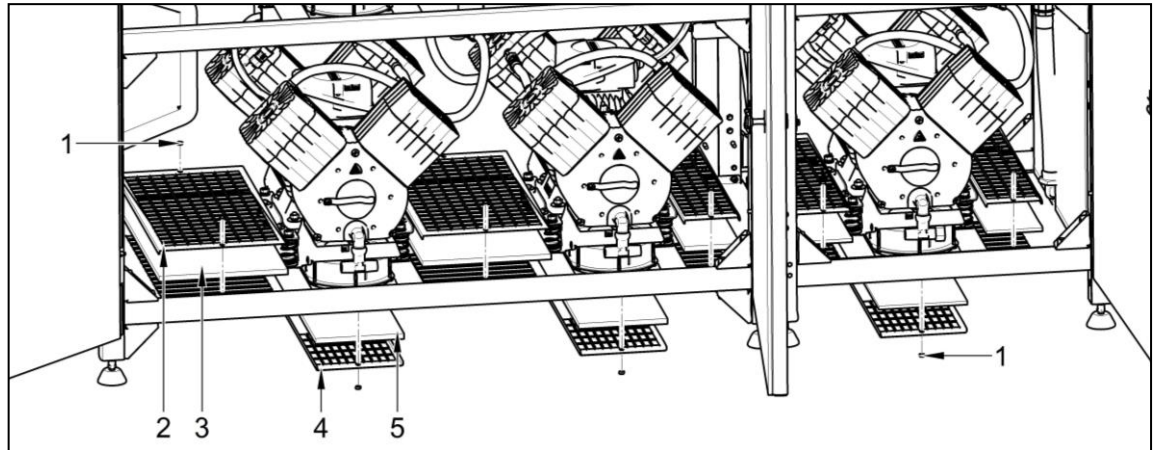
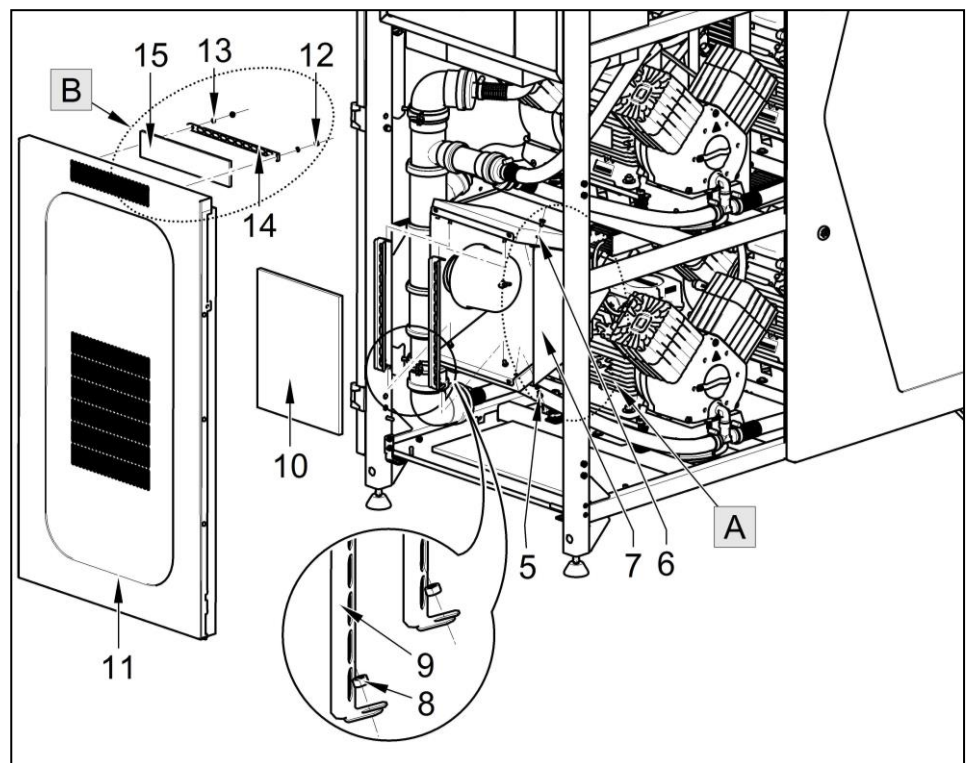

Fig. 21
Fig. 22
(Fig. 21, Fig. 22)
- Remove the nuts (1) and covers (4) on the lower part of the enclosure beneath the air pumps two times and remove the filters (5).
- Remove the nuts (1) and covers (2) inside the enclosure three times and remove the filters (3).
- In Point A, remove the foam, remove the 4 screws (5), washers (6) and remove the suction filter cover (7). – (Fig. 21)
- Remove the 2 nuts (8) on the filter bracket (9) and remove the filter (10).
- In Point B (on the sides (11)), remove the 2 nuts (12), washers (13), release the filter bracket (14) and remove the filter (15).